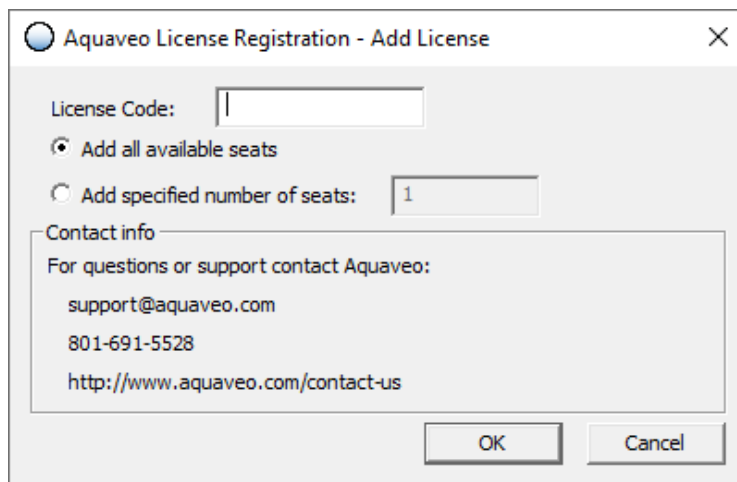

Figure 2 Aquaveo License Registration – Add License dialog
9. From the *Aquaveo License Registration – Advanced* dialog, click on **Add License...** to bring up the *Aquaveo License Registration – Add License* dialog (as seen in Figure 2)